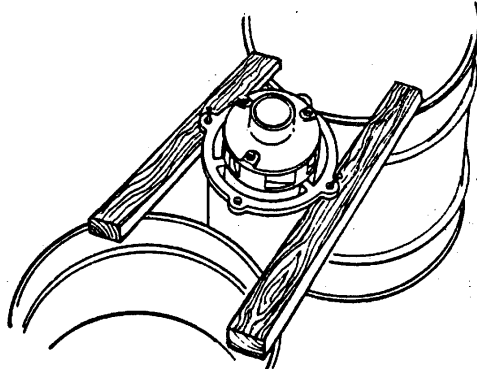

Figure 2. Supporting Pump For Disassembly
It is recommended that the pump be positioned upside-down during disassembly. Invert the pump and position it on two 2 X 4's supported by benches or drums (see Figure 2); temporarily secure the pump to the 2 X 4's by installing fasteners through the capscrew holes in the flange of the intermediate (9). Use adequate equipment and personnel to safely handle the pump until it is secured.